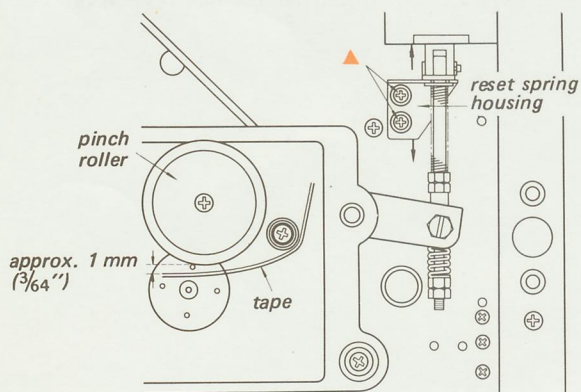

Fig. 3-1-2. Reset spring housing adjustment
See Fig. 3-1-2.
- (1) Remove the Reel Panel. See "Reel Panel Removal" in page 11.
- (2) Thread a tape.
- (3) Check for approx. 1 mm ($\frac{3}{64}$ ") clearance between the tape and the Pinch Roller in the Fast Forward and the Rewind mode. If necessary, loosen the two screws marked ▲ in Fig. 3-1-2, and adjust the position of the Reset Spring Housing by moving in the directions shown by the arrows.
- (4) After the adjustment, apply lock paint to the adjusting screws.